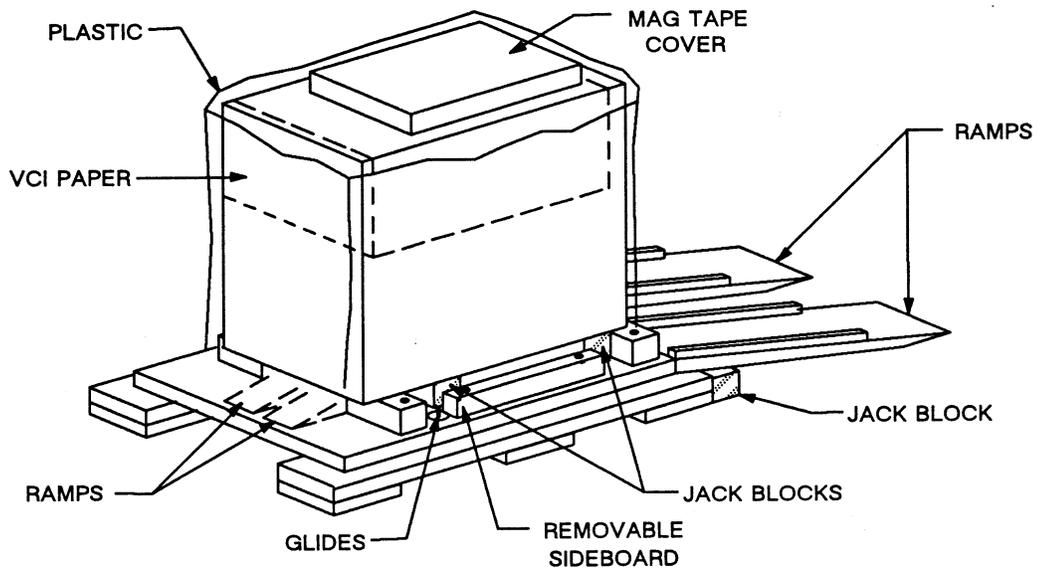

Figure 1-6. Unpacking the CADDServer Peripherals Cabinet
4. Remove the plastic sheet and VCI paper covering the CADDServer. See Figure 1-6.
Figure 1-6 shows the CADDServer Peripherals Cabinet after you have removed the outer packaging material.